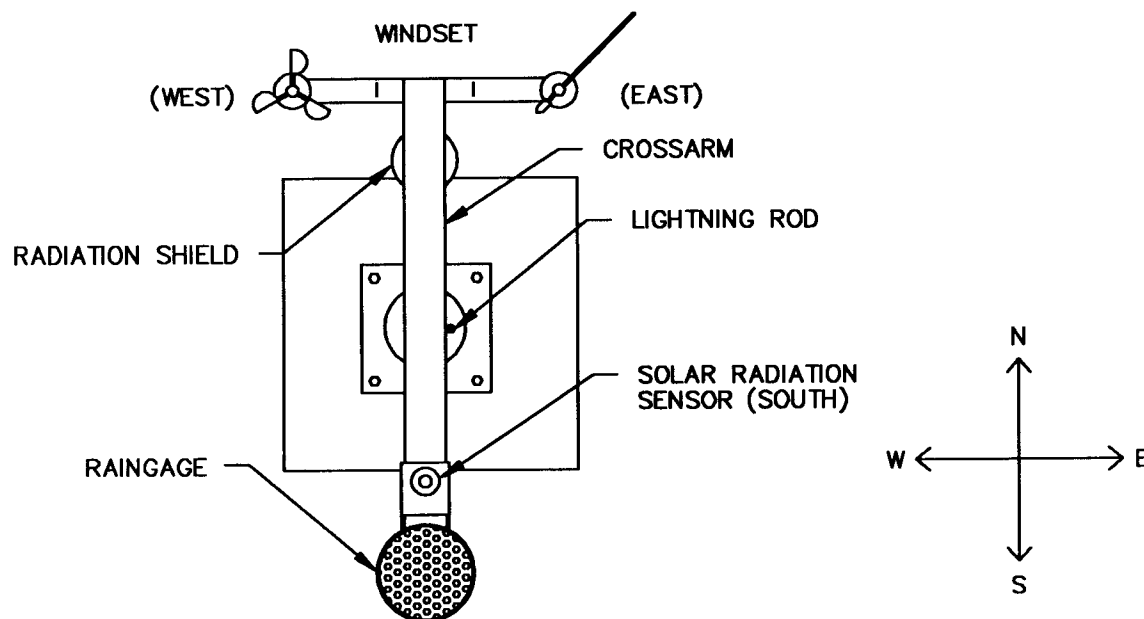

FIGURE 1.4-2. Wind Set Alignment
***Step 4 -** (Figure 1.4-2) Tighten the crossarm and mast as much as possible while aligning the crossarm north-south. The crossarm end having a 1 5/8" hole on the underneath side must be pointed north. Use of a compass is recommended as the crossarm orientation affects the accuracy of the wind direction measurement.
Step 5 - Mount the wind sensors on the north end of the crossarm using the brackets provided. The windset crossarm should be oriented east-west, with the wind direction sensor oriented to the east (Figure 1.4-2).